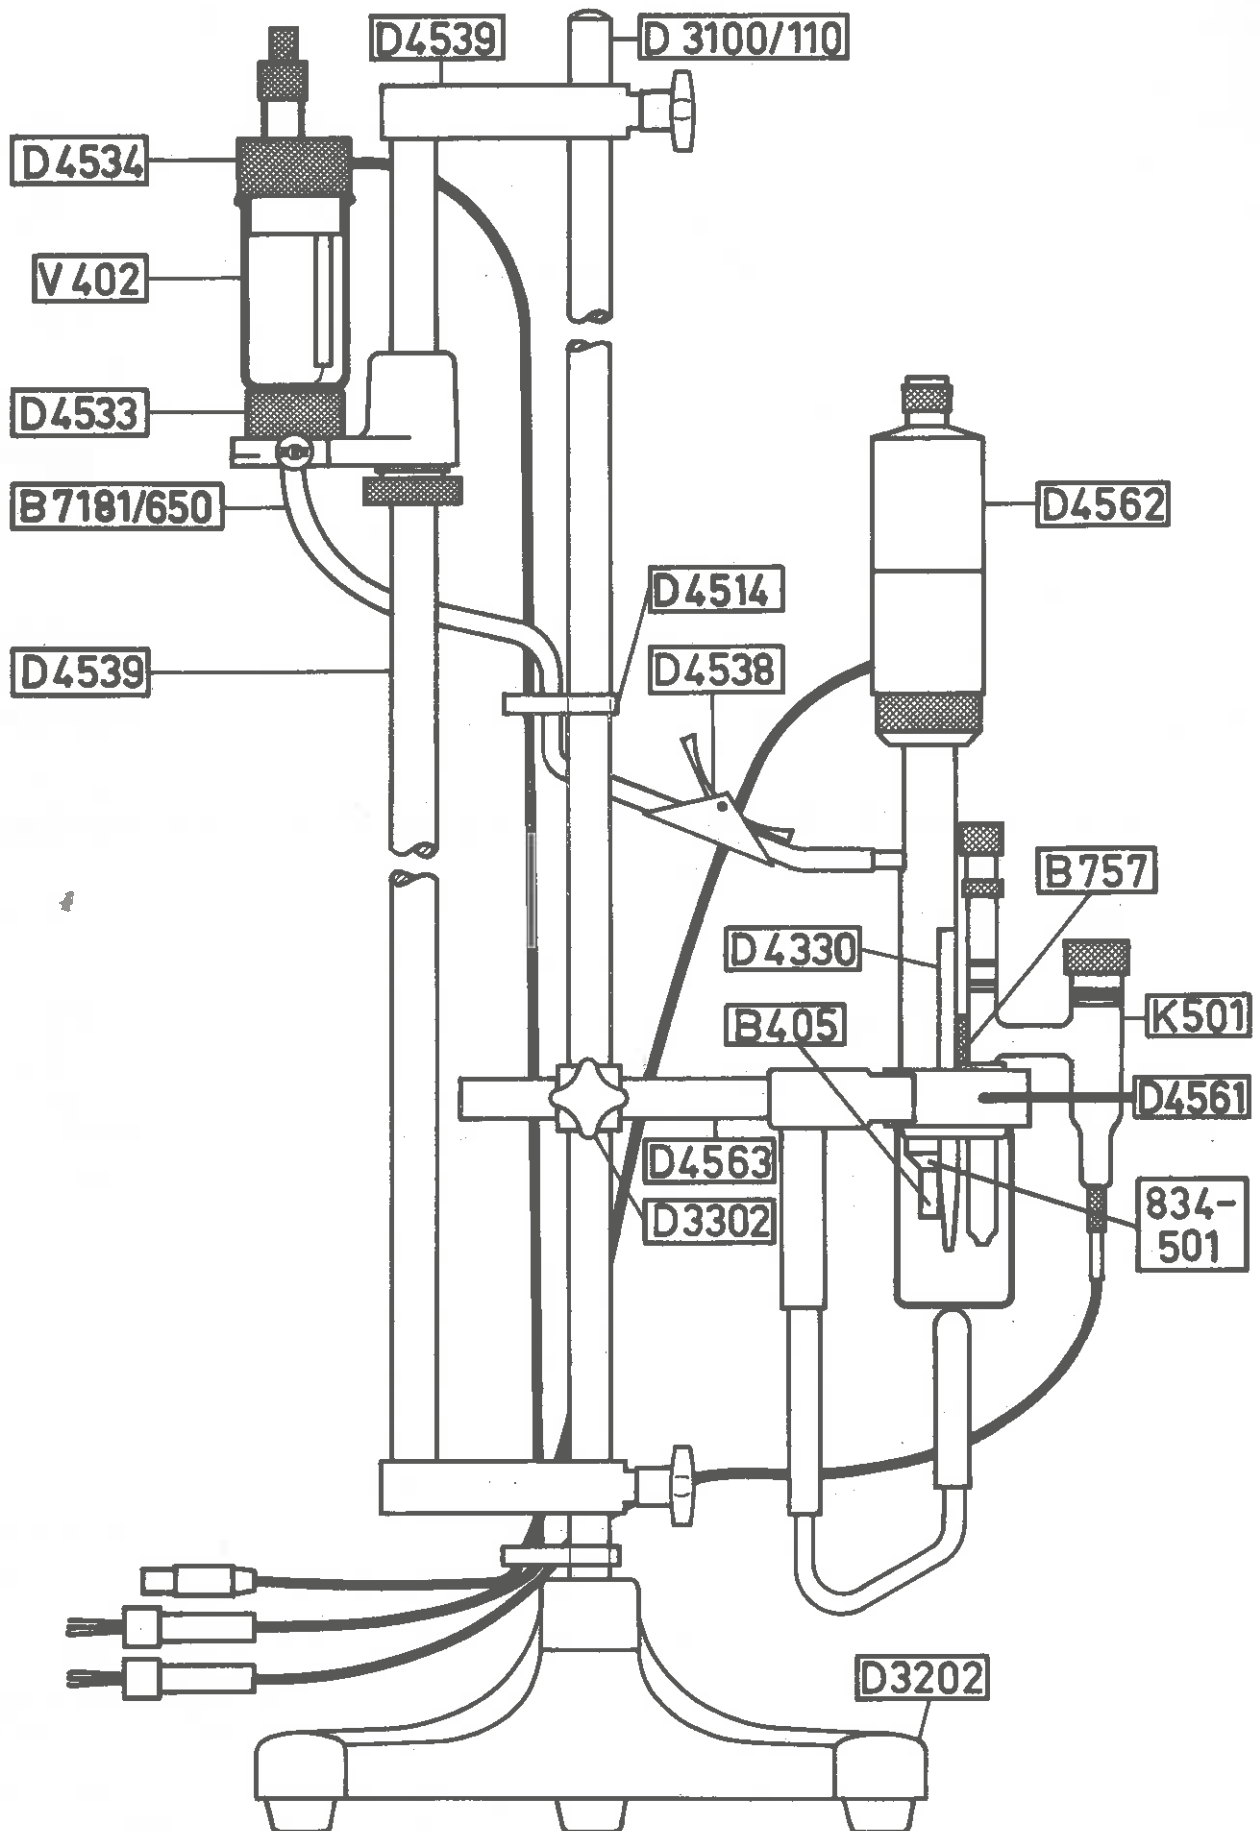

Fig. 7. Drawing of the Electrode Assembly, type E65.
- (a) Mount the stand, D3100/110 in the hole in the wide arm of the C-shaped base D3202. (See Fig.7).
- (1) Mount the electrode setup as shown in the drawing (Fig.7). Follow the above instructions.
- (2) Make sure that the mercury reservoir is filled with mercury and that it is ready for operation. (Screw the syringe on top of the reservoir a little upwards - an air bubble should pass through the mercury).
- (3) Make sure that the calomel electrode is ready for operation (completely filled with saturated KCl solution) and renew the liquid junction in the salt bridge by pressing a few drops of KCl solution out of it.
- (4) Pour about 20 ml of the solution to be analyzed into the vessel, V518, and place it below the electrode head.
- (5) Bubble with nitrogen gas for 10-15 minutes, if the sample is to be deoxygenated.
- (6) After bubbling, raise the gas inlet tube so that the gas keeps flowing over the surface of the sample.
- (7) Connect the lead from the calomel electrode to the binding post CALOMEL ELECTRODE of the type PO4 Polariter.
- (8) Connect the lead from the mercury reservoir to the binding post DROPPING Hg ELECTRODE of the type PO4 Polariter.
- (9) Open the Hg valve
- (10) Make sure that the mercury drops adequately from the Hg capillary.